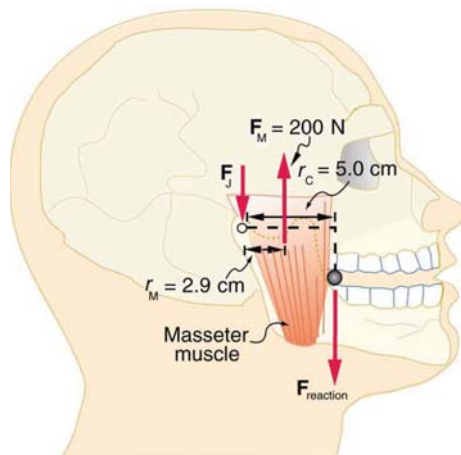

Figure 9.43 A person clenching a bullet between his teeth.
35. Unlike most of the other muscles in our bodies, the masseter muscle in the jaw, as illustrated in **Figure 9.43**, is attached relatively far from the joint, enabling large forces to be exerted by the back teeth. (a) Using the information in the figure, calculate the force exerted by the lower teeth on the bullet. (b) Calculate the force on the joint.